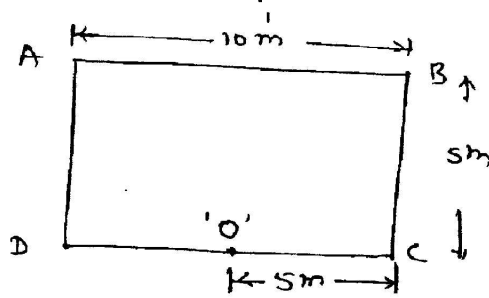

Fig. 1
- (b) A rectangular loaded raft foundation is subjected to a uniformly distributed load of 200 kN/m², find the stress at depth 5m below the point 'O' shown in fig. 1.